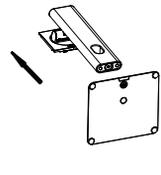

Figure 6
- ③ Unscrew the screws counterclockwise and pull out the base support along the arrow direction as shown in figure 6.